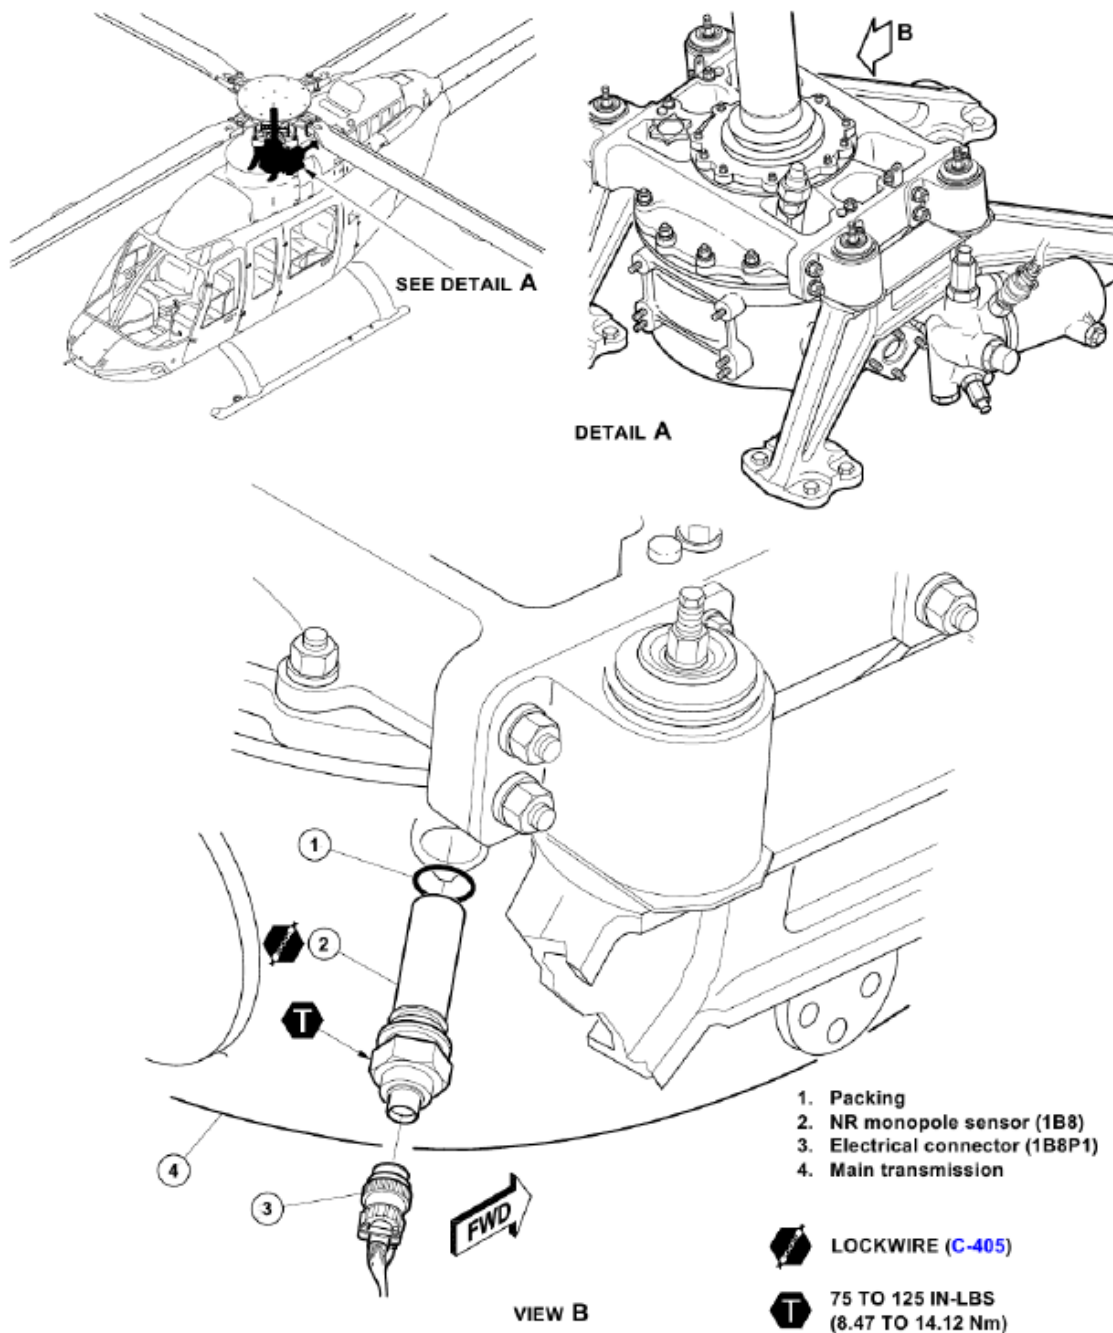

Figure 95-22: NR Monopole Sensor - Removal and Installation
3. Disconnect the electrical connector (1B8P1) (3, Figure 95-22) from the NR monopole sensor (1B8) (2).
4. Remove the lockwire from the NR monopole sensor (1B8) (2).
5. Remove the NR monopole sensor (1B8) (2) and the packing (1) from the main transmission (4).